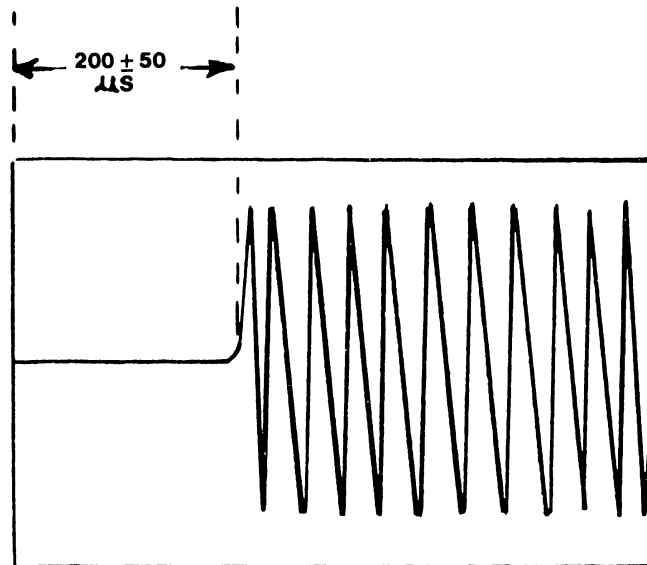

FIGURE 5-30 INDEX-TO-DATA ALIGNMENT PATTERN
2. Move the head to track 01 (key 1).
4. Check that scope shows a data pattern starting 200 ± 50 microseconds from the start of the trace (see Figure 5-30).
4. Slide sensor as necessary to obtain a data pattern starting 200 ± 50 microseconds from the start of the trace (See Figure 5-30).